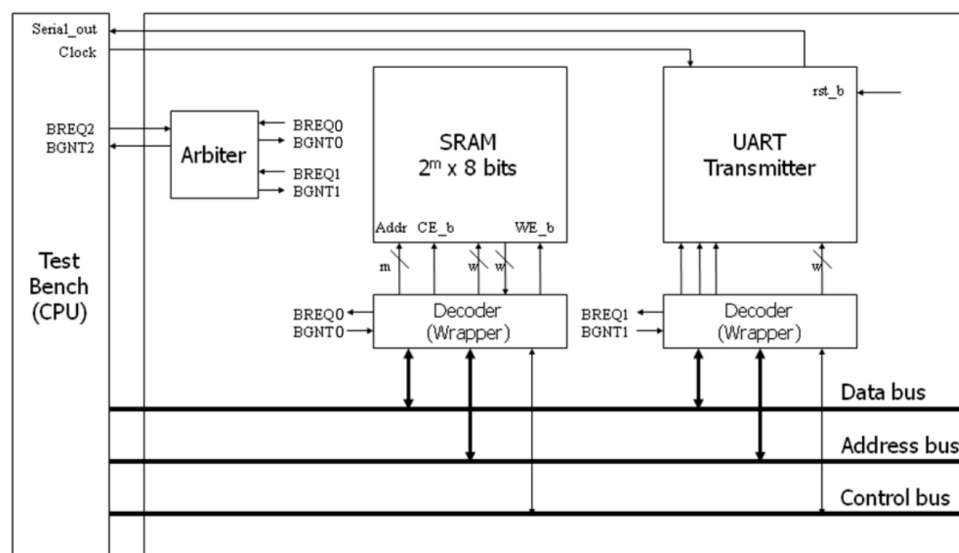

Figure 2. Connections of a system bus
A typical system bus consists of a data bus, an address bus, and a control bus, as shown in Figure 2. An address bus is used to specify a physical address. For example, when a processor or DMA-enabled device needs to read or write to a memory location, it specifies that memory location on the address bus (the value to be read or written is sent on the data bus). The width of the address bus determines the size of memory a system can address. A control bus is part of a computer bus used by CPUs for communicating with other devices within the computer. While the address bus carries the information on which device the CPU is communicating with, and the data bus carries the actual data being processed, the control bus carries commands and status signals from the devices.
In our lab, we assume the test bench has the highest priority, and the UART module has the lowest priority. In Figure 2, decoders are attached between SRAM/UART and the system bus. They are responsible for decoding the instructions from the system bus. In this lab, the address bus has 32 bits. The four most significant bits are used for the identification number (ID) of devices. The ID of the CPU (i.e., test bench) in our design is **0011**, the ID of SRAM is **0001**, and the ID of the UART transmitter is **0010**. The remaining bits on the address bus are used for control and address signals. Figure 5 and Figure 6 show the address map to the SRAM and the UART.